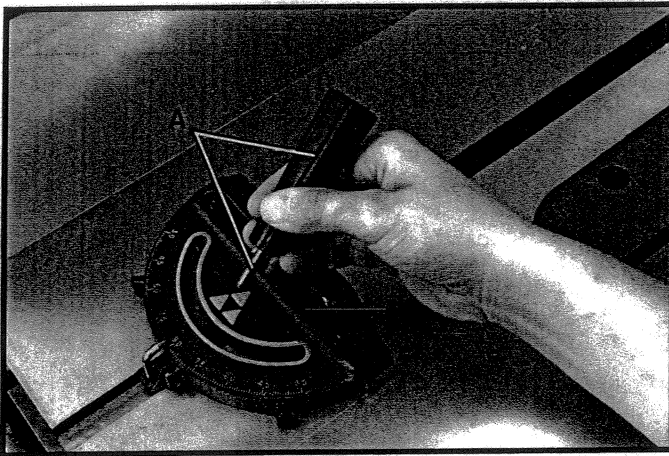

Fig. 73
Insert the miter gage bar into the miter gage slot and assemble the washer and lock handle (A) Fig. 73, to the miter gage bar as shown.